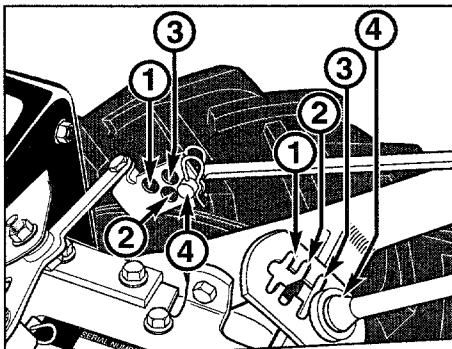

Figure 3-6: Handlebar height slots and clutch swivel plate holes.
- (b) There are four numbered holes in the clutch swivel plate (see Figure 3-6) and four numbered slots in the curved height adjustment bracket. For correct operation of the Forward Clutch mechanism, the numbered hole used for the Forward Clutch rod must match the numbered slot in the height adjustment bracket. Example: If handlebar is in slot #4, put Forward Clutch rod in hole #4 of clutch swivel plate.
- (d) Check for correct tension on the Forward Clutch rod as described in item 5 of "Step 4: Attach Forward Clutch Rod" on page 8.